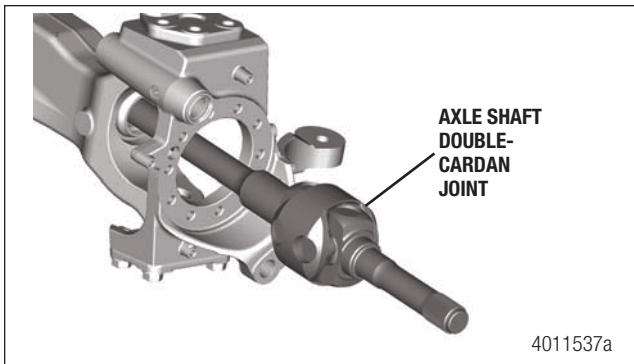

Figure 5.33
1. Remove the axle shaft double-cardan joint assembly from the carrier housing by pulling the assembly STRAIGHT out of the carrier housing. Do not disassemble the joints, which will void the Meritor warranty. Figure 5.33.